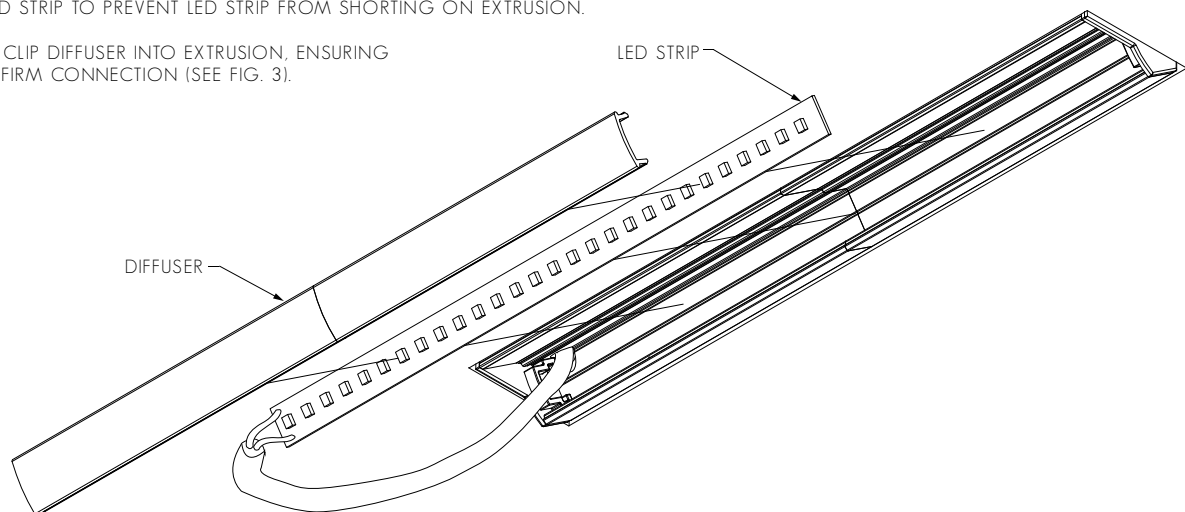

FIG. 3 - ENSURE DIFFUSER IS MOUNTED SECURELY
2. REMOVE BACKING FROM LED STRIP TO EXPOSE STICKY SURFACE. LAY LED STRIP INTO EXTRUSION. SEE FIG. 3. USE KAPTON TAPE AT EACH END OF THE LED STRIP TO PREVENT LED STRIP FROM SHORTING ON EXTRUSION.
3. CLIP DIFFUSER INTO EXTRUSION, ENSURING A FIRM CONNECTION (SEE FIG. 3).